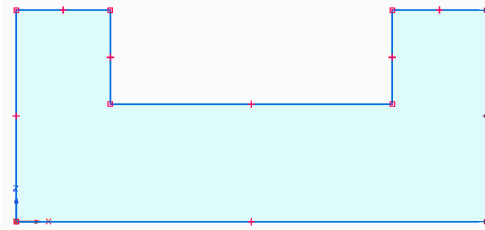

Figure 2-50 Sketch after drawing the lines
16. Choose the **Select** tool from the **Select** group of the **Home** tab to exit the **Line** tool. On doing so, the profile gets shaded indicating that it is a closed region. The sketch after drawing the lines is shown in Figure 2-50.